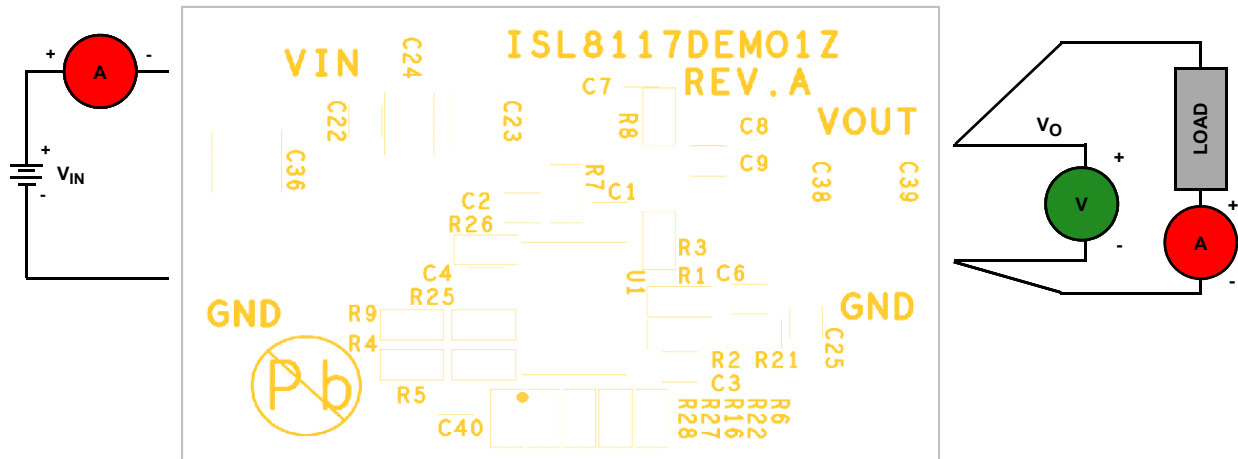

FIGURE 4. PROPER TEST SETUP
1. Ensure that the circuit is correctly connected to the supply and electronic loads prior to applying any power. Please refer to Figure 4 for proper setup.
As shown in Figure 4 on page 3, 4.5V to 60V V_{IN} is supplied to J1 (+) and J2 (-). The regulated 3.3V output on J3 (+) and J5 (-) can supply up to 6A to the load.